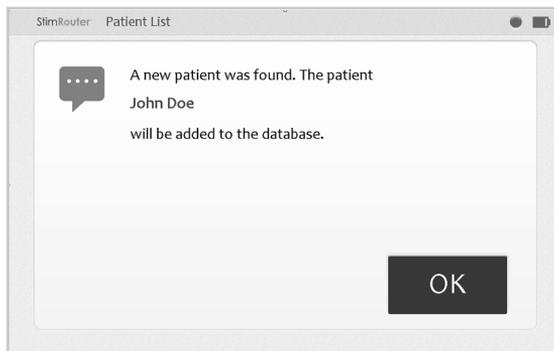

Figure 8-3: Adding a patient with an assigned system
3. The clinician programming will automatically prompt that a new patient was found and to add the patient to the clinician programmer database. Press "OK". See Figure 8-3.